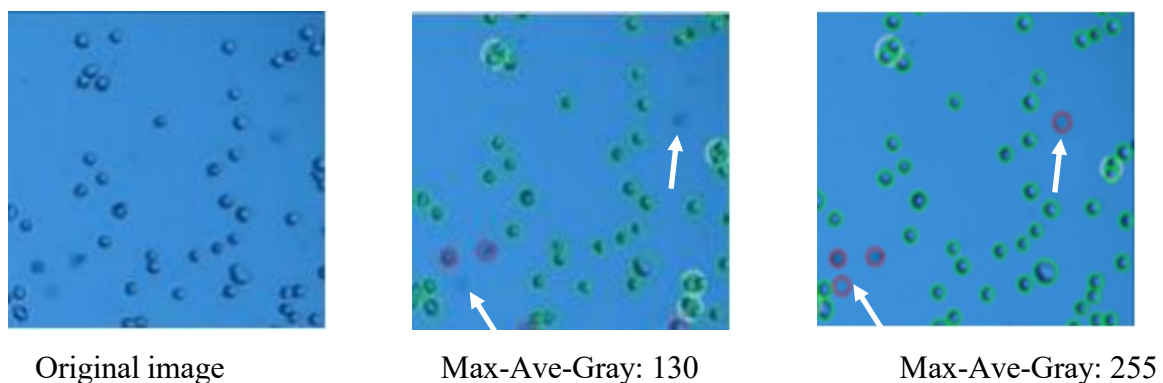

Fig. 2.53 Effect of Max_Gray settings on the labelling results of the algorithms
As shown in the example of **Fig. 2.53**, if the Max-Ave-Gray setting is ideally set (130), all dead cells are identified, but impurities with a high gray scale are not taken into account as cells by the image recognition algorithms.